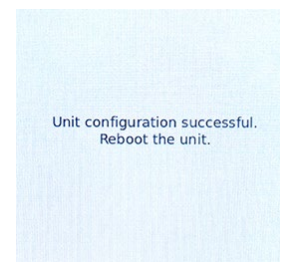

Figure 40
53. The controller displays "Unit configuration successful. Reboot the unit." (see Figure 40). Power cycle the cabinet by switching OFF the power switch for five (5) seconds and switching back on.